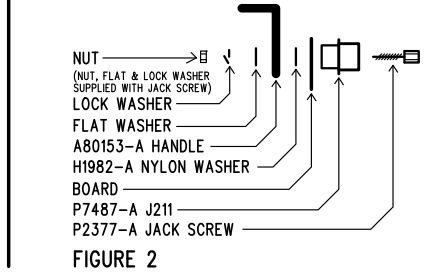

FIGURE 2
- (3) J9 & J211 MOUNTS ON BOTTOM SIDE OF BOARD
- (4) ATTACH HANDLE (A80153-A) TO J211 SEE FIGURE 2
- (5) ATTACH TYGON TUBE (P7170-A) & MALE LUER (P1922-A)